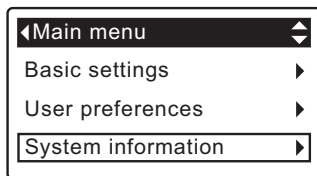

FIG. 58
1. From any of the rolling status screens, press the SELECT (O) button to display the **Main menu**.
2. Press the DOWN (▼) button to scroll through the menu options until **System information** is highlighted (See Figure 58).